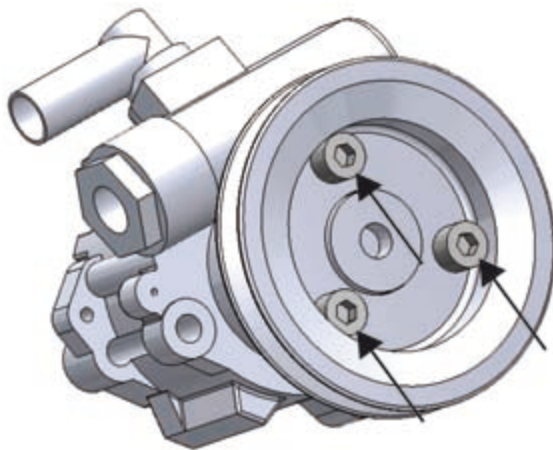

Figure 53. Belt pulley fastening screws
2. Open the screws that attach the belt pulley to the bracket (3 pcs, figure 53).